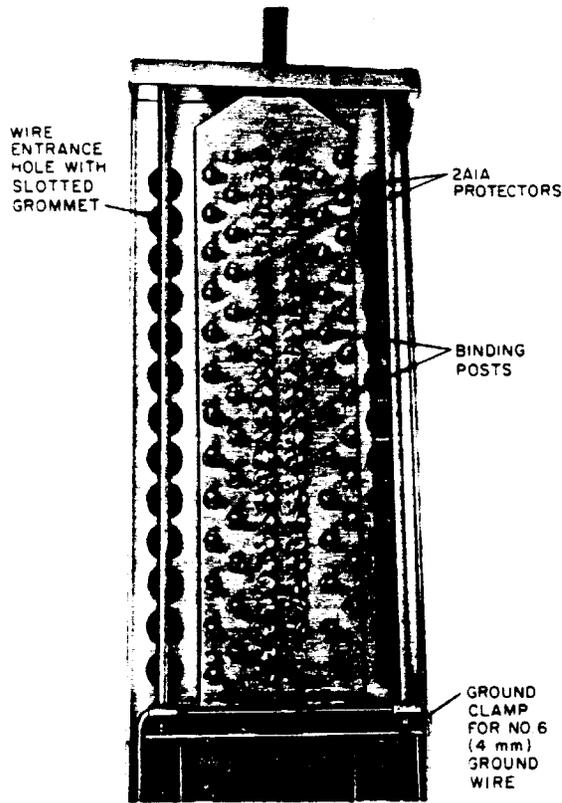

**Figure 6—NH16 Cable Terminal**
**3.12** The NH16 cable terminal (Figure 6) may be strand, pole, or wall mounted. Where the NH16 cable terminal is wall mounted on the premises of a customer, it must be bonded (grounded) to an acceptable ground (Table D).